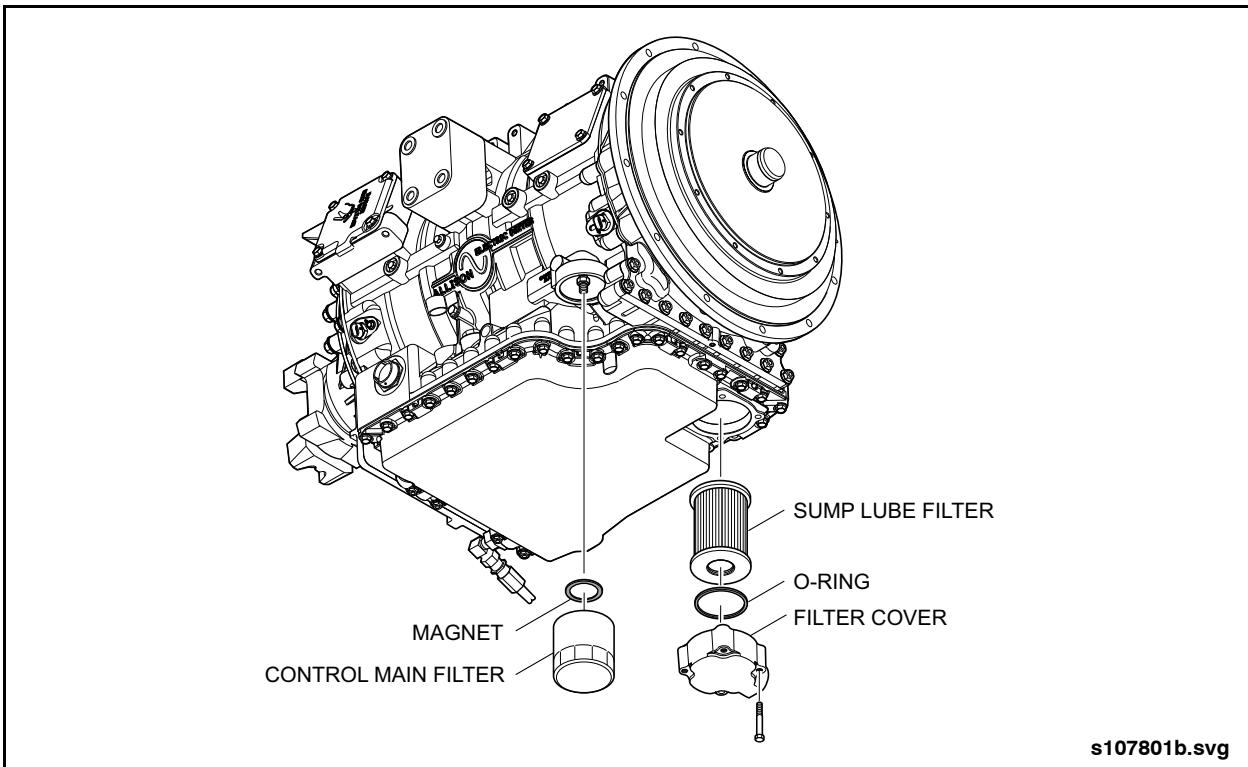

Fig. PM-40: Drive Unit Oil Filters
3. Remove the spin-on Control Main Filter using a filter wrench. Drain filter into a suitable container. See "Fig. PM-40: Drive Unit Oil Filters" on page 83.